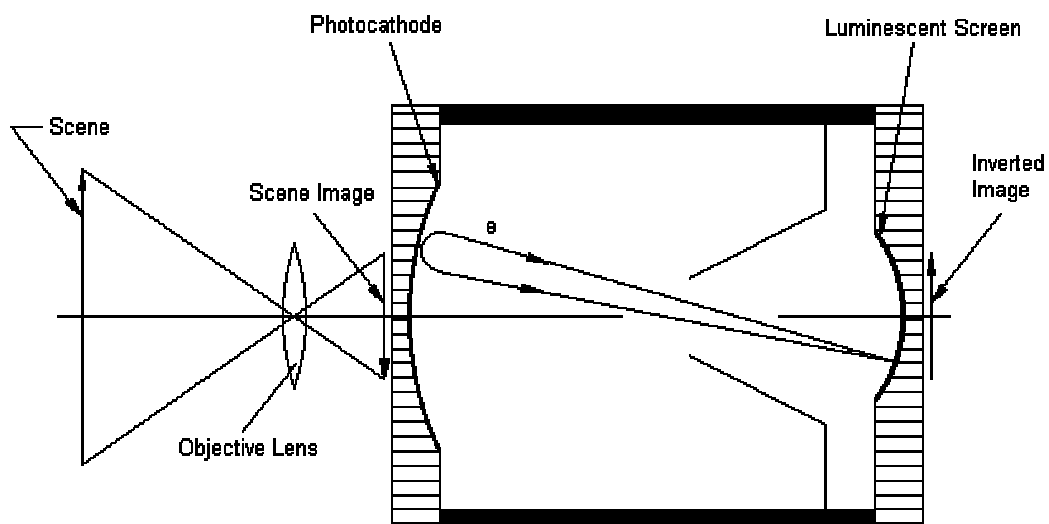

Fig. 3: Inverter image intensifier diode
- by using an electron lens to focus electrons originating from the photocathode onto the screen (inverter diode), Fig. 3.